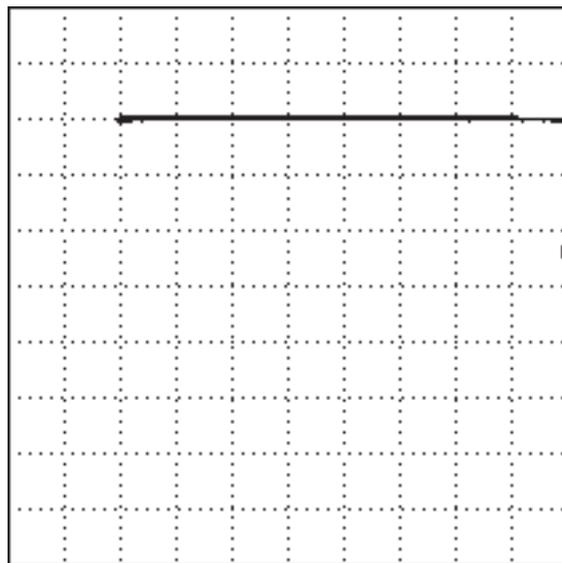

Figure 4-7.
13. Press *GAIN menu soft key* and rotate SmartKnob™ until Liftoff signal moves off screen. If necessary, re-adjust the Angle to obtain a horizontal Liftoff signal. (see **Figure 4-7**).